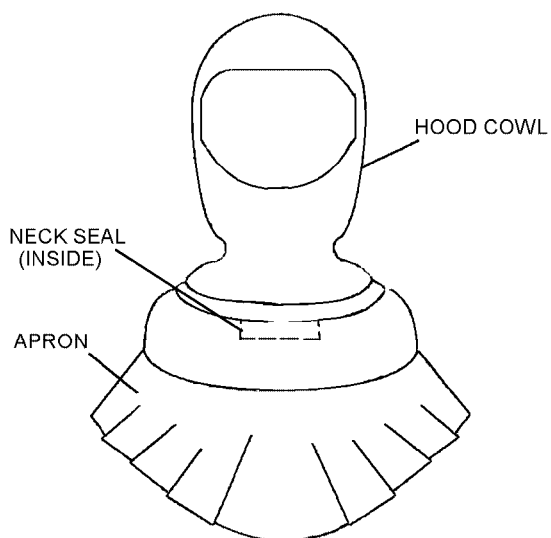

Figure 4-6. Hood Assembly
4-8. Hood Assembly. The hood assembly, shown in figure 4-6, is made of bromo-butyl rubber, covers the entire head and is bonded to the faceplate, neck seal and bellows. The neck seal, available in two sizes: standard and small, is made of natural rubber and, together with the hood and faceplate, isolates the head and neck. The (V)2 through (V)4 variants include a modified hood which allows for increased head mobility. The hood cowl is available in three sizes: extra-small, standard and extra-large.